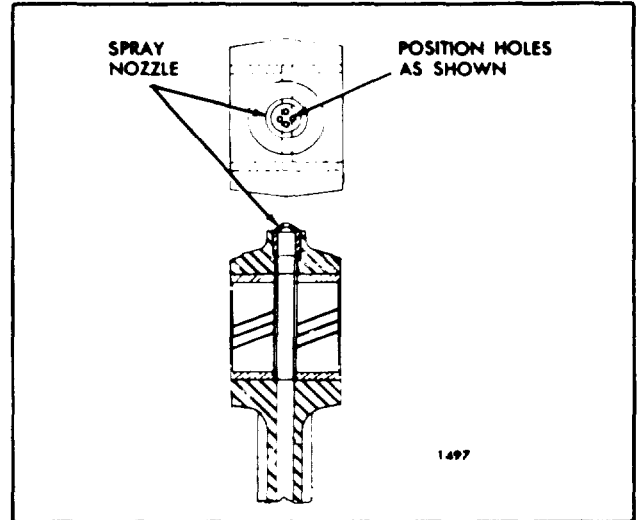

Fig. 6 Position of Spray Nozzle Holes
6. Start the new spray nozzle, with the holes positioned as shown in Fig. 6, straight into the counterbore in the connecting rod.